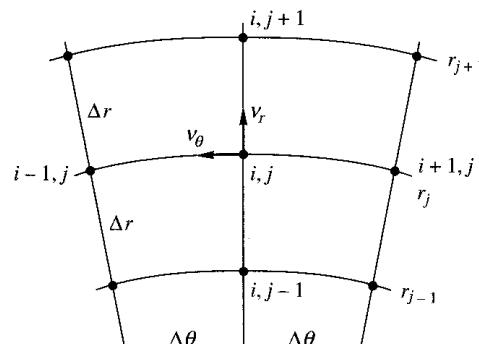

Fig. P8.106
**8.106** Laplace's equation in polar coordinates, Eq. (8.11), is complicated by the variable radius  $r$ . Consider the finite-difference mesh in Fig. P8.106, with nodes  $(i, j)$  at equally spaced  $\Delta\theta$  and  $\Delta r$ . Derive a finite-difference model for Eq. (8.11) similar to our cartesian expression in Eq. (8.109).